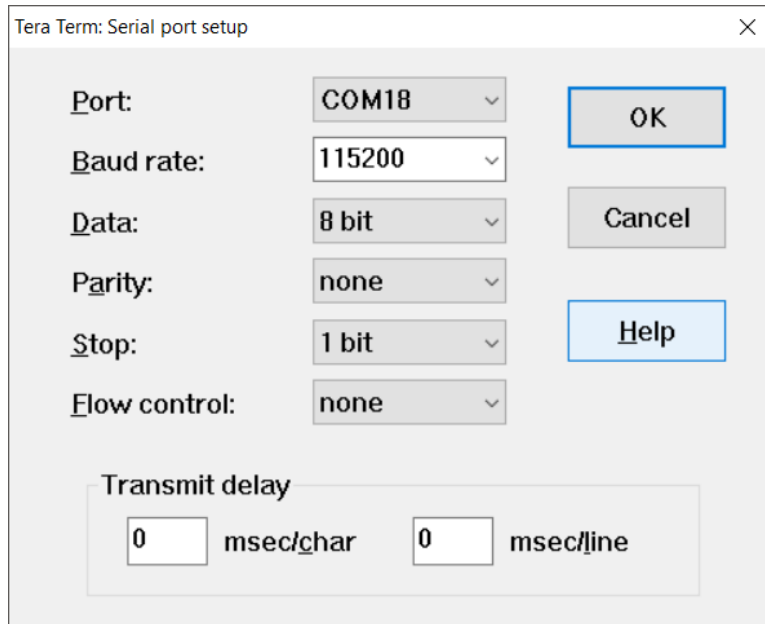

Figure 18. Configuring serial port
- Open the **Setup** menu and select the **Serial port** option. Make sure to configure the settings as in Figure 18.